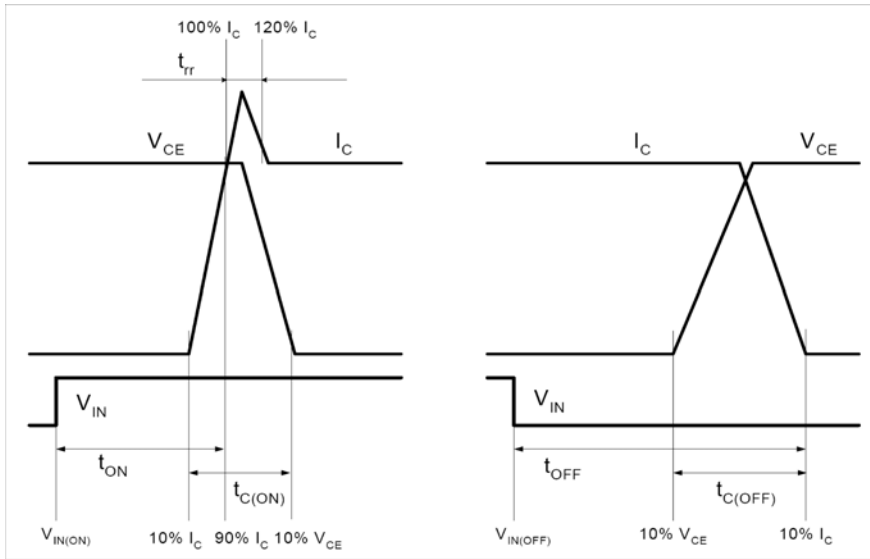

Figure 4. Switching Time Definitions
- t_{ON} and t_{OFF} include the propagation delay of the internal drive IC. $t_{C(ON)}$ and $t_{C(OFF)}$ are the switching time of IGBT itself under the given gate driving condition internally. For the detailed information, please see Figure 4.